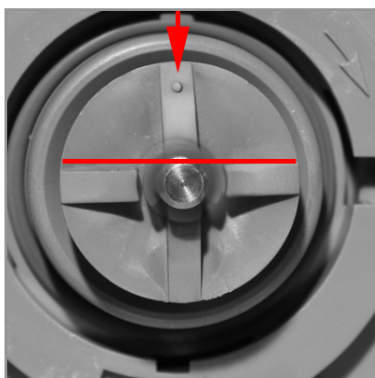

Figure 19
Ensure that the marking dot on the whipper is aligned with the flat edge on the whipper shaft. (figure 19), then press firmly until it clips fully in place.
3. Open the machine's drainage plug for the overfill protection (2, figure 19). Let the water run out.